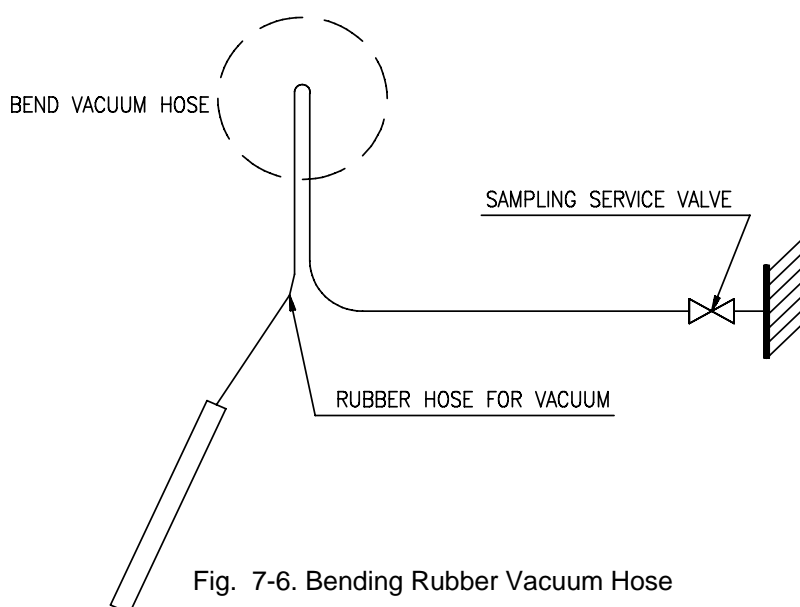

Fig. 7-6. Bending Rubber Vacuum Hose
- (8) When the container become more or less empty, bent the rubber vacuum hose with both hands to ensure that air does not leak in, and quickly insert it in the next container. (Fig. 7-6.)
- (9) Repeat steps (6) to (8) until all containers have been emptied.
- (10) Once the required amount of solution has been charged close up the sampling service valve.
- (11) Remove the rubber vacuum hose from the sampling service valve, and put the cap on the service valve.
- (12) Stop the purge pump.
- (13) Wash the rubber vacuum hose, etc. with water.
- (14) Continue air purging for 30 minutes after completion of this work.
- (15) Neatly arrange the containers and equipment used.